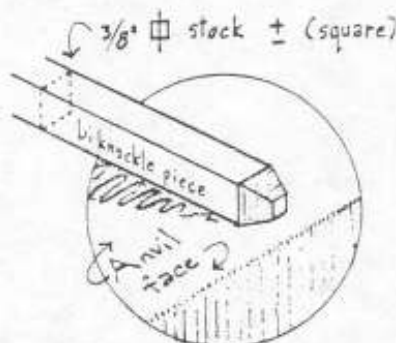

figure H5: forge blunt taper to prepare scarf
- Forge a quick pyramidal blunt taper on anvil face. see fig. H5